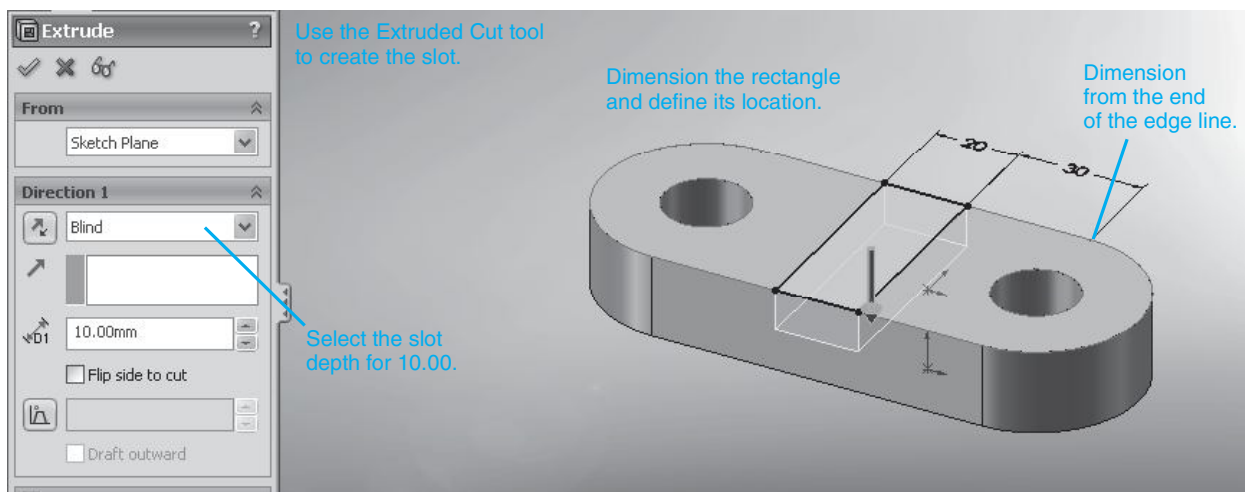

Figure 1-63
4. Use the **Smart Dimension** tool to size and locate the rectangle as indicated in Figure 1-63.
See Figure 1-63.